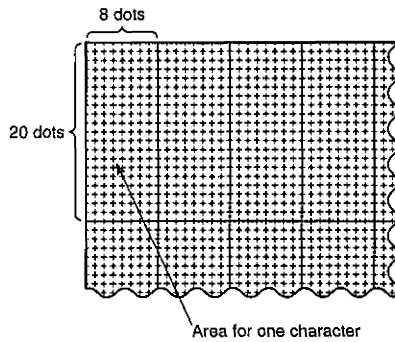

Figure 5.1
- (1) The display area for one character in the operation machine screen is 8x20 dots. (Refer to Figure 5.1.)
- (2) An interval between characters can be created in the following manner: